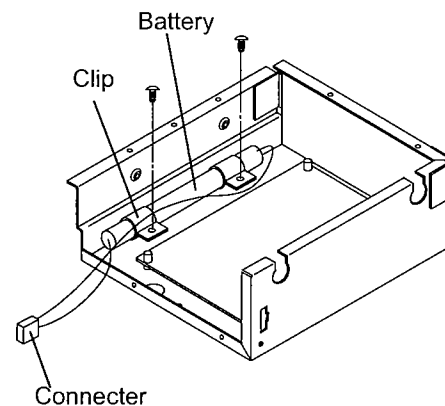

Fig. 4
5. Remove 2 screw fixing the clips securing the battery and then disconnect the connector. (Fig. 4)